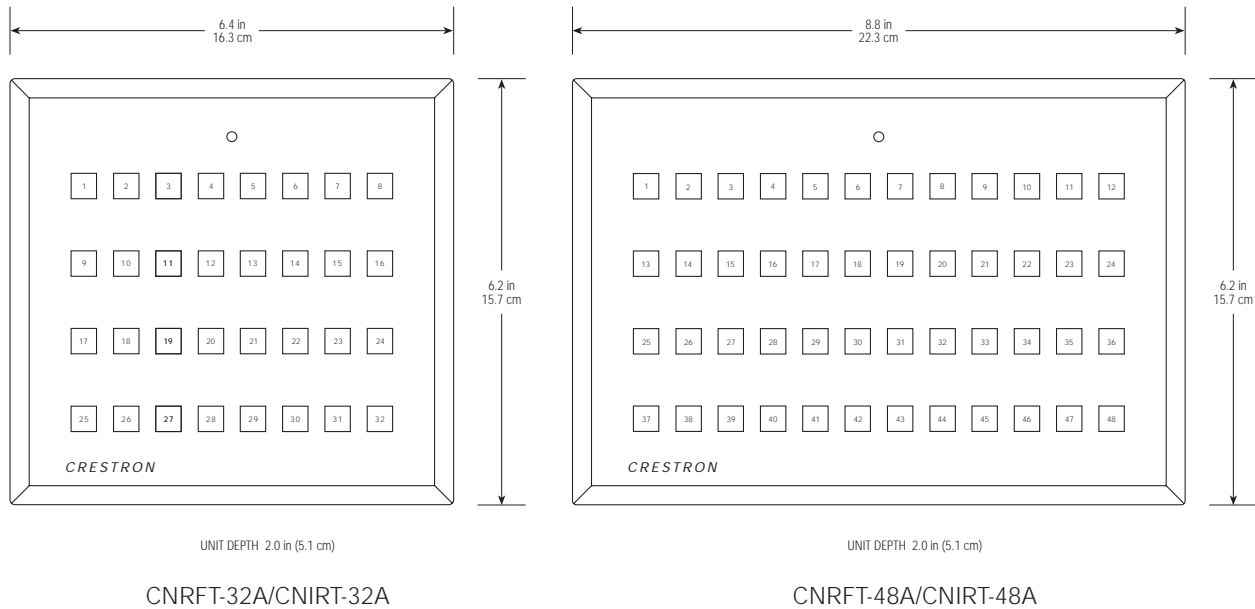

Figure 1. CNRFT/CNIRT, One-Way Wireless Panels
The CNRFT series of portable RF wireless panels, figure 1, is designed to operate with the CRESNET II system with the use of a wireless receiver such as the CNRFGWA network unit. Up to 32 miniature pushbuttons reside on the CNRFT-32A to provide direct user interface. The CNRFT-48A offers up to 48 miniature pushbuttons.
The CNIRT series of portable infrared (IR) wireless panels, figure 1, is designed to operate with the CRESNET II system with the use of a wireless receiver such as the CNIRGWA network unit. Up to 32 miniature pushbuttons reside on the CNIRT-32A to provide direct user interface. The CNIRT-48A offers up to 48 miniature pushbuttons.
CNRFT-32A/48A and CNIRT-32A/48A electronic hardware is housed in a high-impact molded plastic enclosure (refer to figures 1 and 2 for front and back views, respectively). The button array on the printed circuit board is covered by a customized button panel. All button panels include custom engraving, colored button caps, choice of button configurations, and panel finishes. Refer to the latest version of the CRESNET II Engraving Worksheet for the wireless transmitters (Doc. 5242 and Doc. 5243) to design a unique button panel. Omission of unused buttons is standard. A red transmit LED is located above the button panel cover.
The button array is located beneath the custom button panel of each wireless transmitter. Refer to figure 1 for the location of the SIMPL-C button numbers and their corresponding button positions for the CNIRT and CNRFT transmitters. The numbering for each button is constant. For each button input, a signal name must be defined in the SIMPL program. Unused buttons need not be assigned signal names. The following example illustrates button definition of the CNRFT-32A and CNIRT-32A in the CRESNET II Workshop. Access the following tables from the "Define Network" section of the SIMPL-I Menu. Aside from difference in nomenclature, the Workshop menus of the CNRFT-48A and CNIRT-48A are identical.